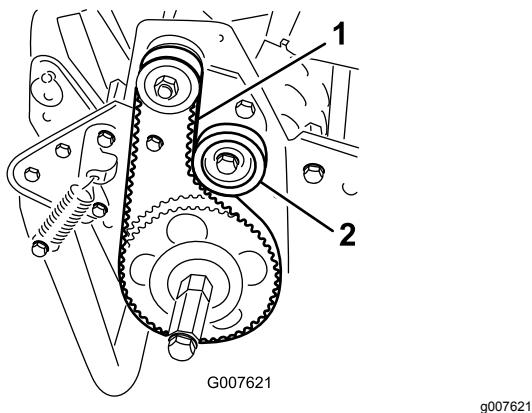

Figure 39
2. Check the tension by pressing the belt at mid span of the pulleys (Figure 39) with 18 to 22 N (4 to 5 lb) of force.
- A. Loosen the idler-pulley mounting nut and pivot the idler pulley clockwise against the backside of the belt until the desired belt tension is attained (Figure 39).